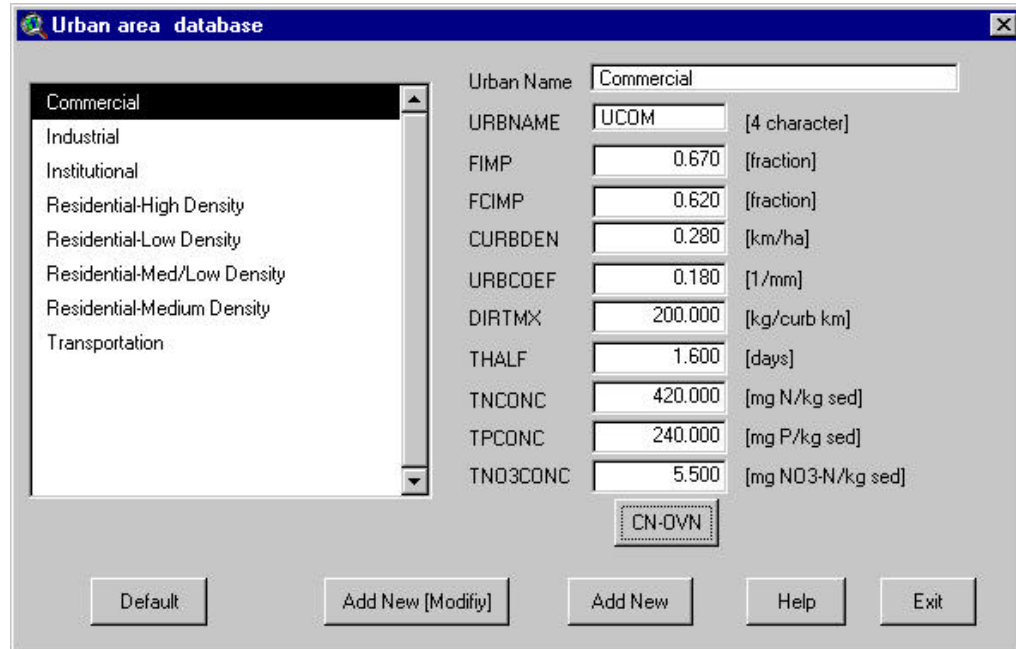

Figure 14.70
- The data for the urban land type will be displayed (Figure 14.70). A complete description of the parameters is provided in the *Soil and Water Assessment Tool User's Manual, Version 2000*, Chapter 18.